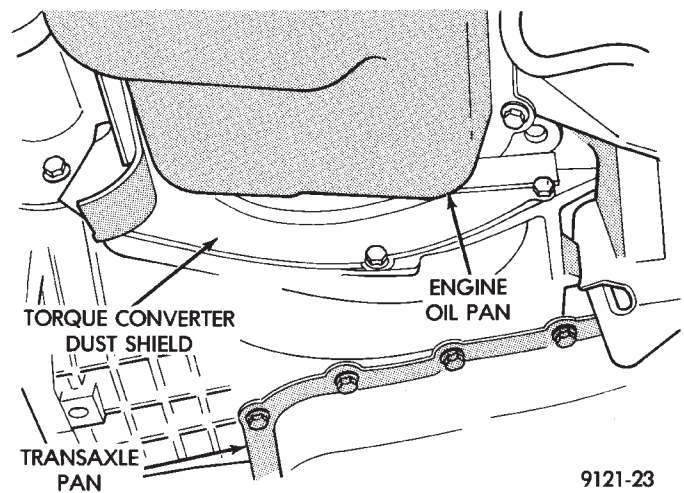
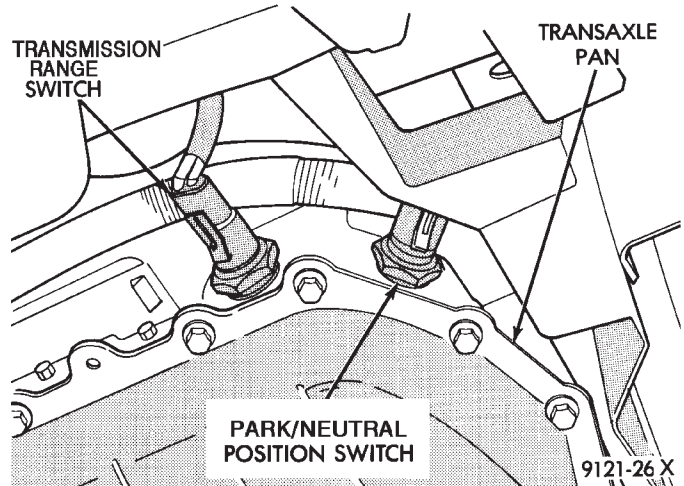

Fig. 3 Remove Torque Converter Dust Shield
Fig. 4 Disconnect PRNDL Switch and Neutral Safety Switch
- (8) Remove torque converter dust shield to gain access to torque converter bolts (Fig. 3).
- (9) Mark torque converter and drive plate with chalk, for reassembly. Remove torque converter mounting bolts.
- (10) Disconnect electrical connectors at PRNDL switch and neutral safety switch (Fig. 4).